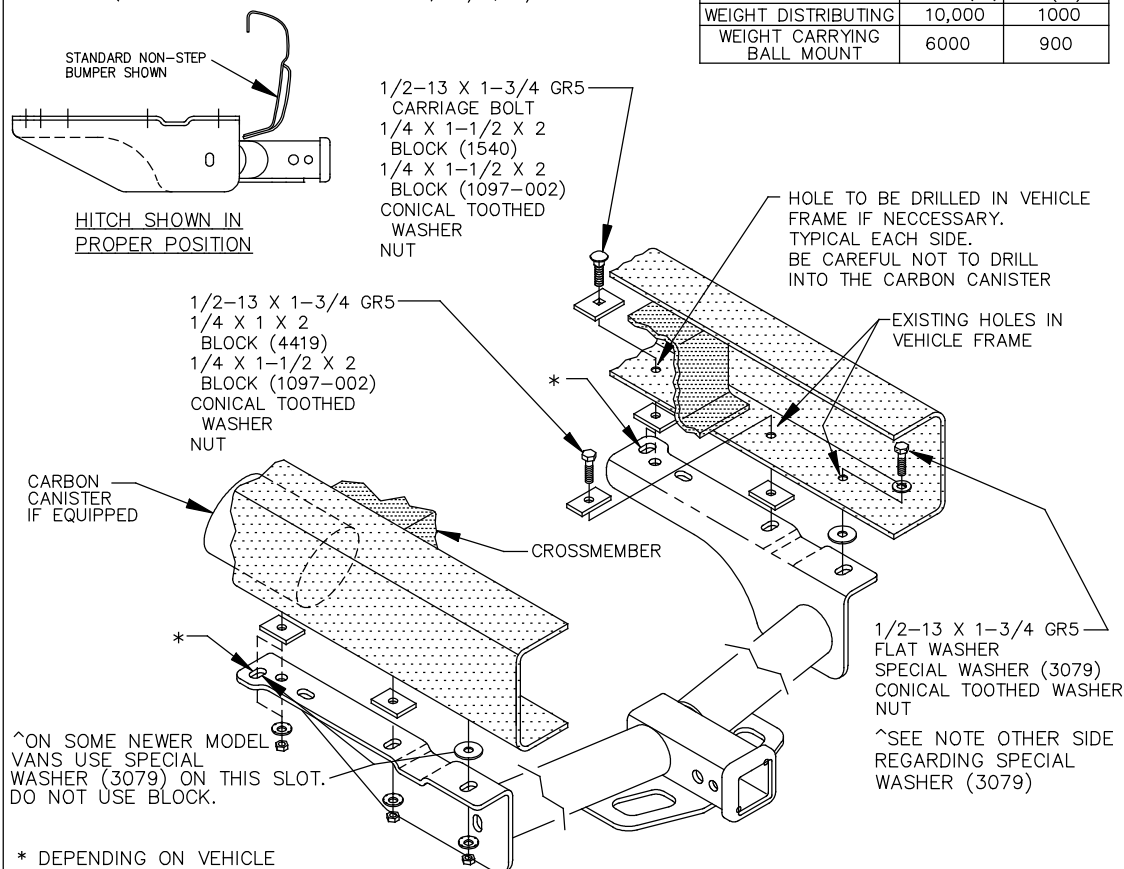

FIGURE 1
SEE FIGURES 1 & 2
6. LOOSELY INSTALL BOLTS, BLOCKS (DEPENDING ON MODEL: SEE FIGURES 1 & 2), FLAT WASHERS, CONICAL TOOTHED WASHERS AND NUTS.
7. USING HITCH AS A TEMPLATE, DRILL 1/2" HOLE(S) AS NECESSARY IN EACH FRAME RAIL. AND INSTALL 1/2" BOLTS, BLOCKS (DEPENDING ON MODEL), CONICAL TOOTHED WASHERS AND NUTS.